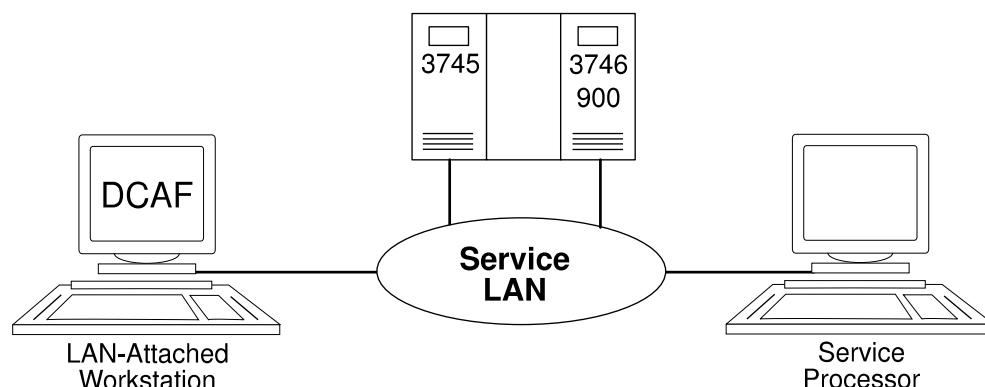

Figure 12-1. Token-Ring LAN (APPC Type) Configuration
- Configure a DCAF session for controlling the service processor (see Figure 12-1).